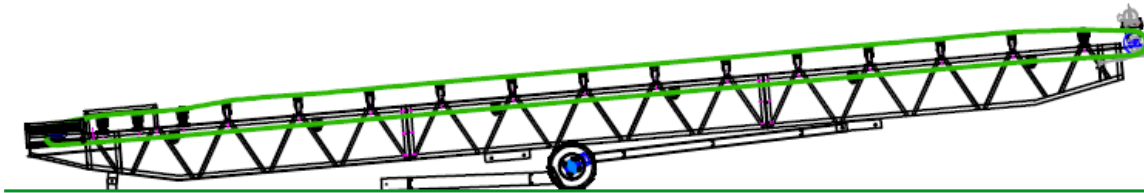

Figure 8
- 7.2 Secure Front Leg into desired trunion Position. (See Figure 8)